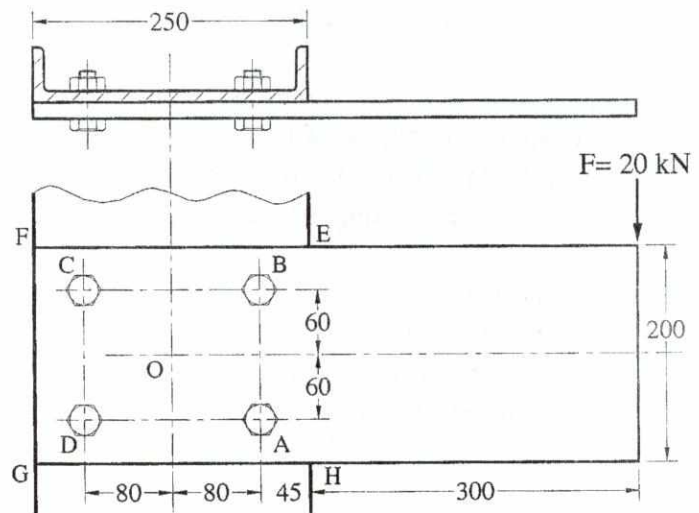

Figure 1
- A rectangular steel cantilever bar is secured by four bolts as shown in figure 1. Select a suitable 12.9 class bolt size. The 12.9 class proof strength is 1120 MPa and the factor of safety required for bolts is 4. (10 points)